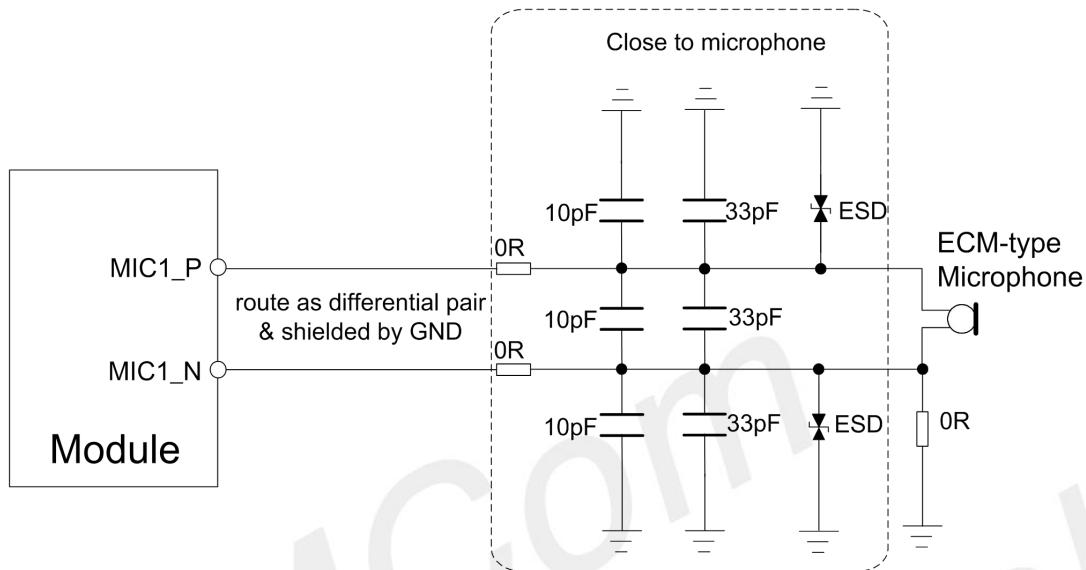

Figure 20: ECM-type microphone reference circuit
A 100KΩ pull-down resistor is integrated at HPH_L pin, which could be used for mechanical insertion or removal detection through HS_DET pin. Figure 20 shows the reference circuit for normally-closed (NC) type headset jack.